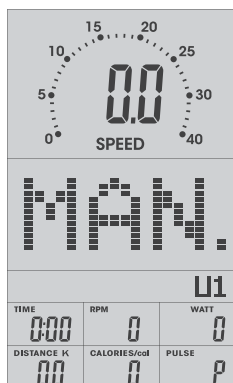

FIGURE 9
1. Quick Start – Press the START button for Quick Start / Manual mode. (FIG 9)
2. Program selections are MANUAL → PROGRAM → USER PROGRAM H.R.C. → WATT (FIGURE 9~13)